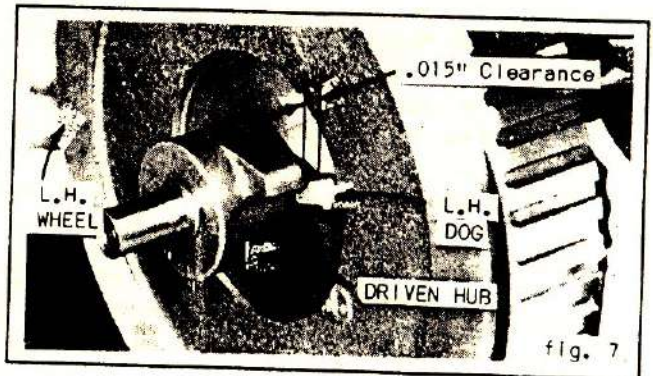

fig. 7
9. Leaving the machine in the above position, crank L.H. wheel until bedplate has moved completely through eye position. With dog still at twelve o'clock and trip lever released, L.H. dog (fig. 7) should just clear (cannot engage drive hub with light outward pressure on L.H. wheel). Up to .015" is permissible. To adjust, loosen screw (U, fig. 9) and move L.H. wheel in or out as necessary. Retighten screw (U).